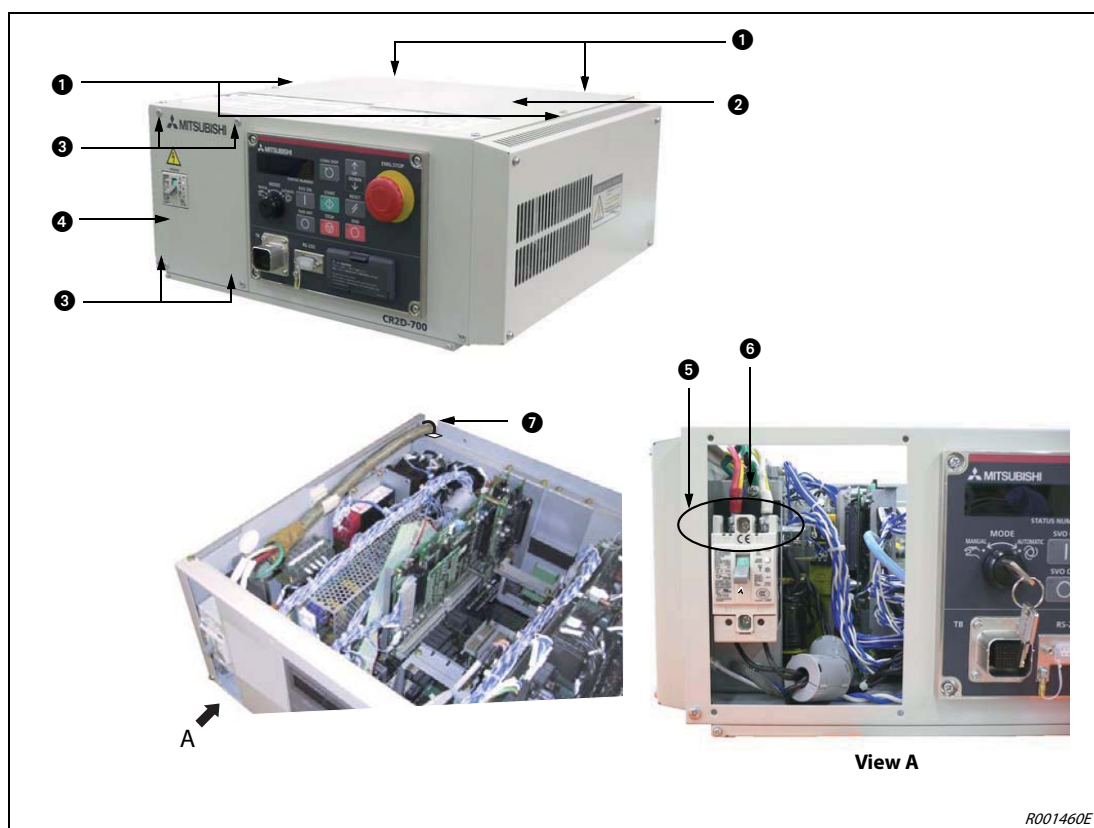

Fig. 4-5: Connection of mains line and grounding on control unit CR2D and on drive unit DU2
- ① Make sure that the mains voltage and the power switch of the control unit or the drive unit are switched off.
- ② Release the four screws ① on the cover ② and remove the cover. Release the four screws ③ on the power switch cover ③ and remove this cover.
- ③ Remove the terminal cover of the power switch ⑤.
- ④ Prepare the mains line (feed) and the grounding cable. Use cable with a minimum cross-section of 2.5 mm².
- ⑤ Connect the mains line to the terminals of the power switch according to Fig. 4-5 . Connect the grounding cable with the grounding cable marked PE ⑥ to the housing of the control unit.
- ⑥ Fix the terminal cover of the power switch back into place. You will hear a click when it locks in.
- ⑦ lay the mains line through the cable feed in the rear cover ⑦.
- ⑧ Fix the cover and the power switch cover into place.